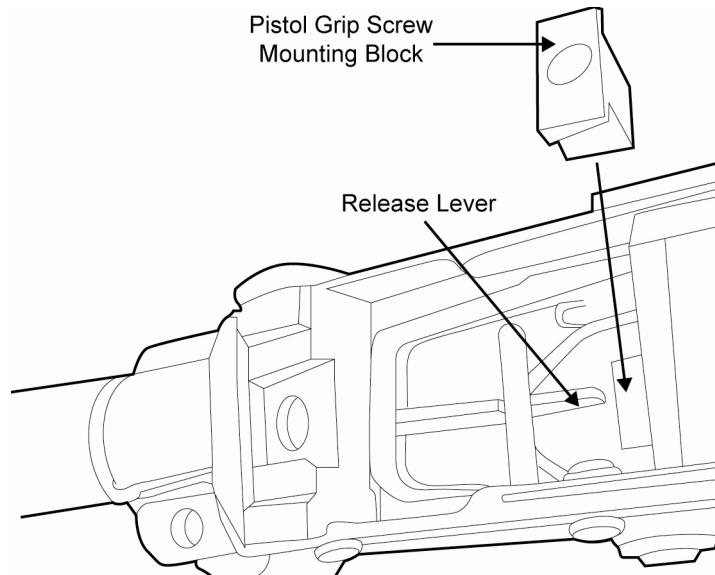

Figure 56. Installing the Pistol Grip Screw Mounting Block.
f. Install the pistol grip screw mounting block into the receiver through the hole in the mounting plate with the thick edge to the rear. Refer to Figure 56. Push the release lever forward until the release lever retaining pin is seated in the notch in the release lever.